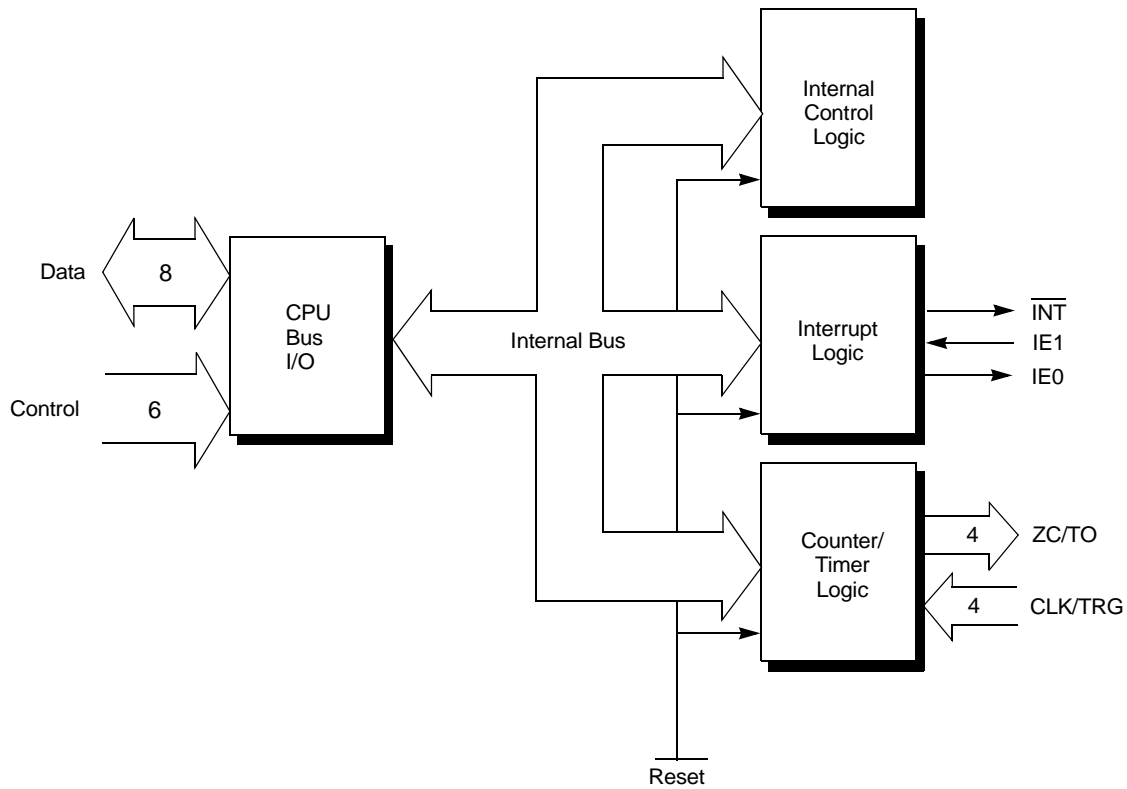

**Figure 3. Parallel Interface Adapter Block Diagram**
**Parallel Interface Adapter (PIA) Logic Unit.** This logic also offers an additional 8 bits of I/O to the user, referred to as the PIA port (see Figure 3). This port, designated as Port C, is bit-programmable for data transfers; each bit can be individually programmed as either an input or an output. Bit direction control is performed through the programming of the PIA Control Register. When programmed as outputs, the output data latches are programmed with an I/O write cycle; their state can be read with an I/O read cycle. When programmed as inputs, the state of the external pin is read with the I/O read cycle. This port does not have handshake capabilities and offers no interrupt capabilities. This port is multiplexed to provide the additional modem and CPU control signals for the serial I/O logic unit, when appropriate.